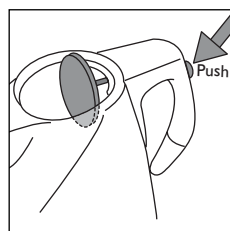

Fig. 5
- Open lid by pressing on the lid release button. The lid will open automatically (fig. 5). (Fill kettle to desired level).